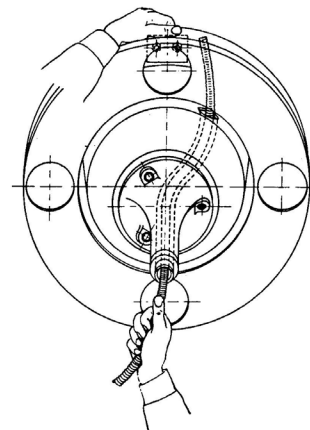

FIG. 12
3. Face the machine from the front. Place your left hand on top of the external drum; press the heads of the cable clamp screws forward with two fingers of your left hand, steadying the external drum with the palm of your left hand. Sight through the cut-out in the cover of the external drum and rotate the inner drum with your right hand; position the inner drum so that the distributor arm is aligned slightly to the right of the cable clamp. See Figure 12.